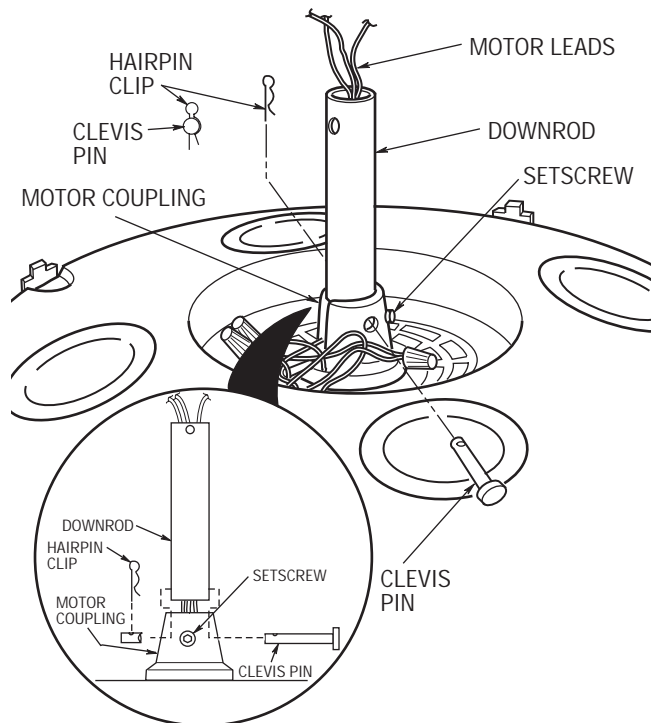

Figure 2
- 3. Separate, untwist and unkink the three motor leads. Route the motor leads through the downrod and seat the downrod in the motor coupling (Figure 2).
4. Align the clevis pin holes in the downrod with the holes in the motor coupling. Install the clevis pin and secure with the hairpin clip (Figure 2). (Pin and clip are supplied in loose parts bag.) The clevis pin must go through the holes in the motor coupling and the holes in the downrod. Push the straight leg of the hairpin clip through the hole near the end of the clevis pin until the curved portion of the hairpin clip snaps around the clevis pin. The hairpin clip must be properly installed to prevent the clevis pin from working loose. Pull the hanger ball to make sure the clevis pin is properly installed.
**It is critical that the clevis pin in the motor coupling is properly installed and the setscrew securely tightened. Failure to verify that the pin and setscrew are properly installed (as shown in Figure 2) could result in the fan falling.**
5. Install the setscrew (supplied) in the motor coupling (Figure 2). While pulling up on the downrod, tighten the setscrew using the setscrew wrench (supplied).